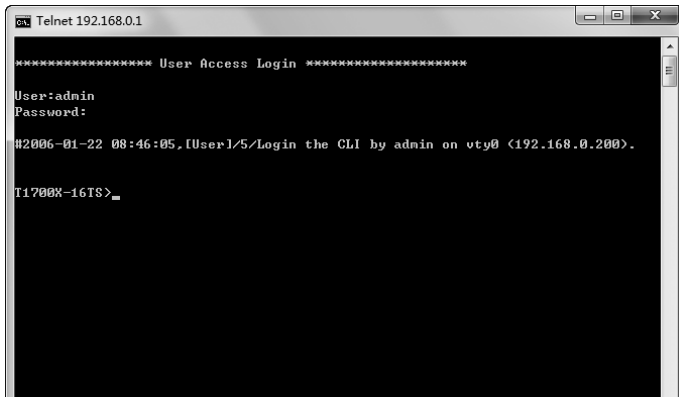

Figure 5-6 Log in the Switch
4. Type the User name and Password (the factory default value for both of them is admin) and press the Enter button, then you can use the CLI now, which is shown as Figure 5-6.